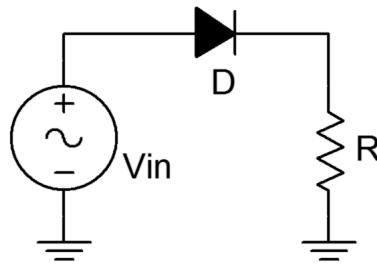

Figure 1
1. Consider the circuit of Figure 1. For an input voltage significantly larger than 0.7 volts, the diode will be forward biased for the positive half of the input sine wave. Therefore, all of the input signal (less 0.7 volts) will appear across the load resistor, R. Conversely, during the negative polarity of the input, the diode will be open, thus blocking any current and producing no voltage across the load.
2. Build the circuit of Figure 1 using $V_{in} = 10$ volts peak at 1 kHz and $R = 10$ k Ω . Set the oscilloscope inputs to DC coupled. Place one oscilloscope probe across the input generator and a second probe across the load resistor. Record the peak amplitude of the output load waveform in Table 1. Also, save an image of the scope trace showing both the input and output waveforms.